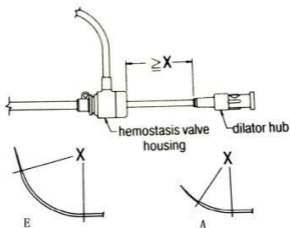

Fig.4
- Separate the sheath introducer and dilator by withdrawing the dilator a distance sufficient to accommodate the needle curve. (See Fig.4.). This will facilitate passage of the transeptal needle curve through the rigid hubs of the dilator and sheath introducer.